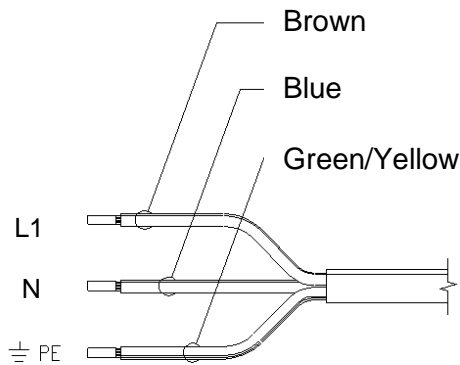

Figure 3: Connection diagram 1-phase version
- Motor item 6601314900 has to be connected at 230 V as shown in figure 3.
- Motor item 6601314910 is supplied to be connected in star at 400 V (3 x 230 V). For use with a lower voltage, the configuration of the motor terminal box must be changed from star to delta as shown in figure 3.
- If the direction of rotation is opposite to the arrow direction: reverse two phases (L1 en L3) in the mains connection (figure 4) or in the motor terminal box (figure 3).